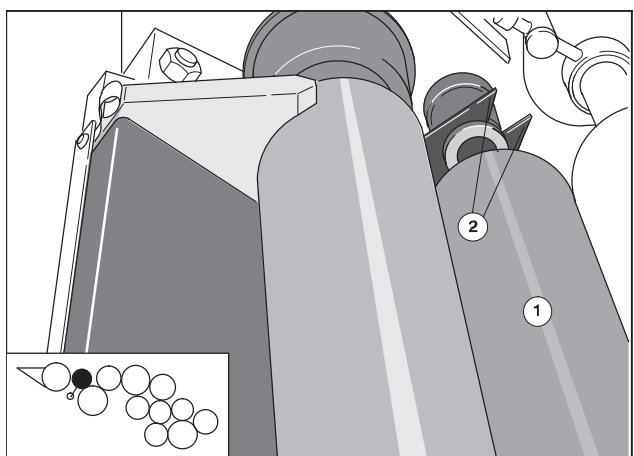

Fig. 16 Removing the ink vibrator
1. Pull the ink vibrator (Fig. 16/1) upwards out of the retainers (Fig. 16/2) on both sides at the journal.